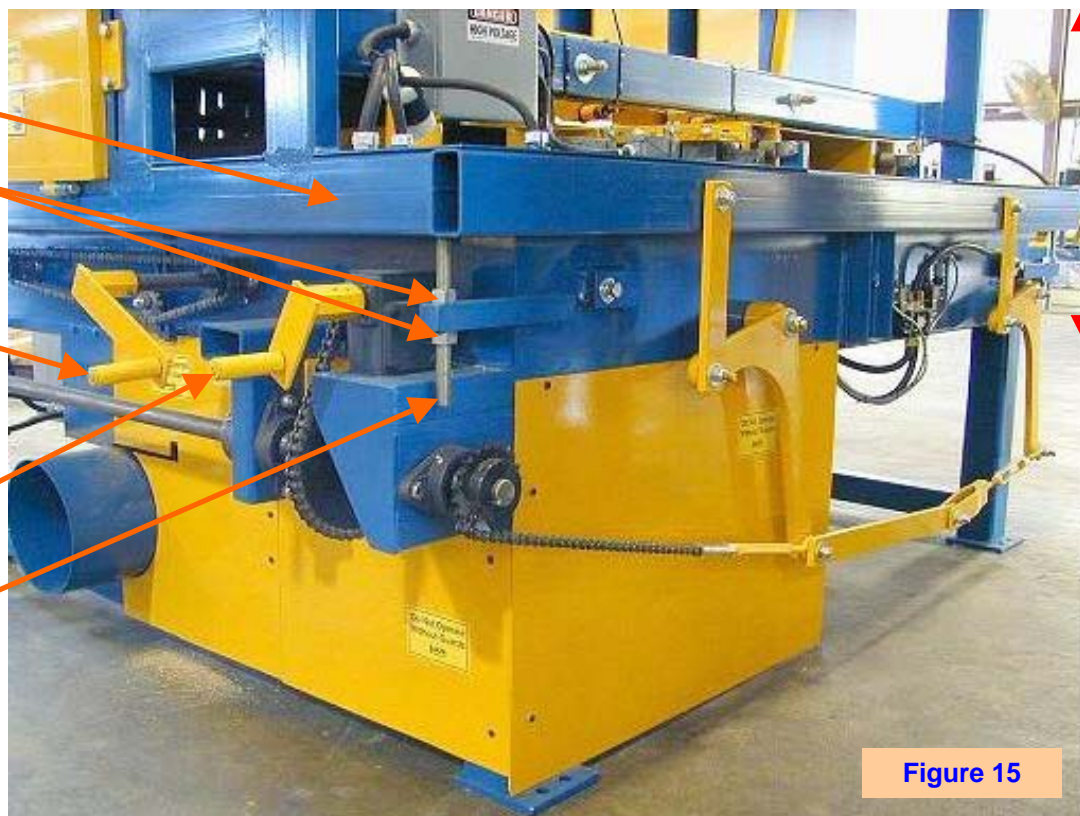

Figure 15
- For deeper notches, move the four holding bolts down away from the tabletop and lower the table via the table height adjustor crank (**Figure 15, page 15**).
- After adjusting notch depth, move the four (4) holding bolts (one on each corner) so that they touch the bottom of the tabletop. These holding bolts fully support the table when completely lowered into the desired notch depth position. (**Figure 15, page 15**).
- Adjust cutter heads to desired notch spacing by turning the notch location adjustor crank on the side of the machine (**Figure 15, page 15**).